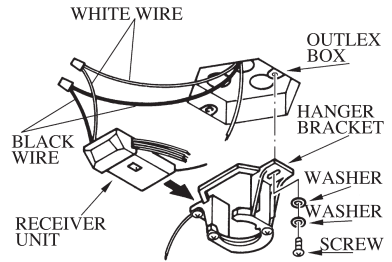

FIG.5
- Carefully lift the fan and seat the down rod and ball assembly on the hanger bracket. Be sure the groove in the ball is lined up with tab on the hanger bracket. Do not pinch wires between the ball and down rod assembly and hanger bracket (see fig.5 & 6)